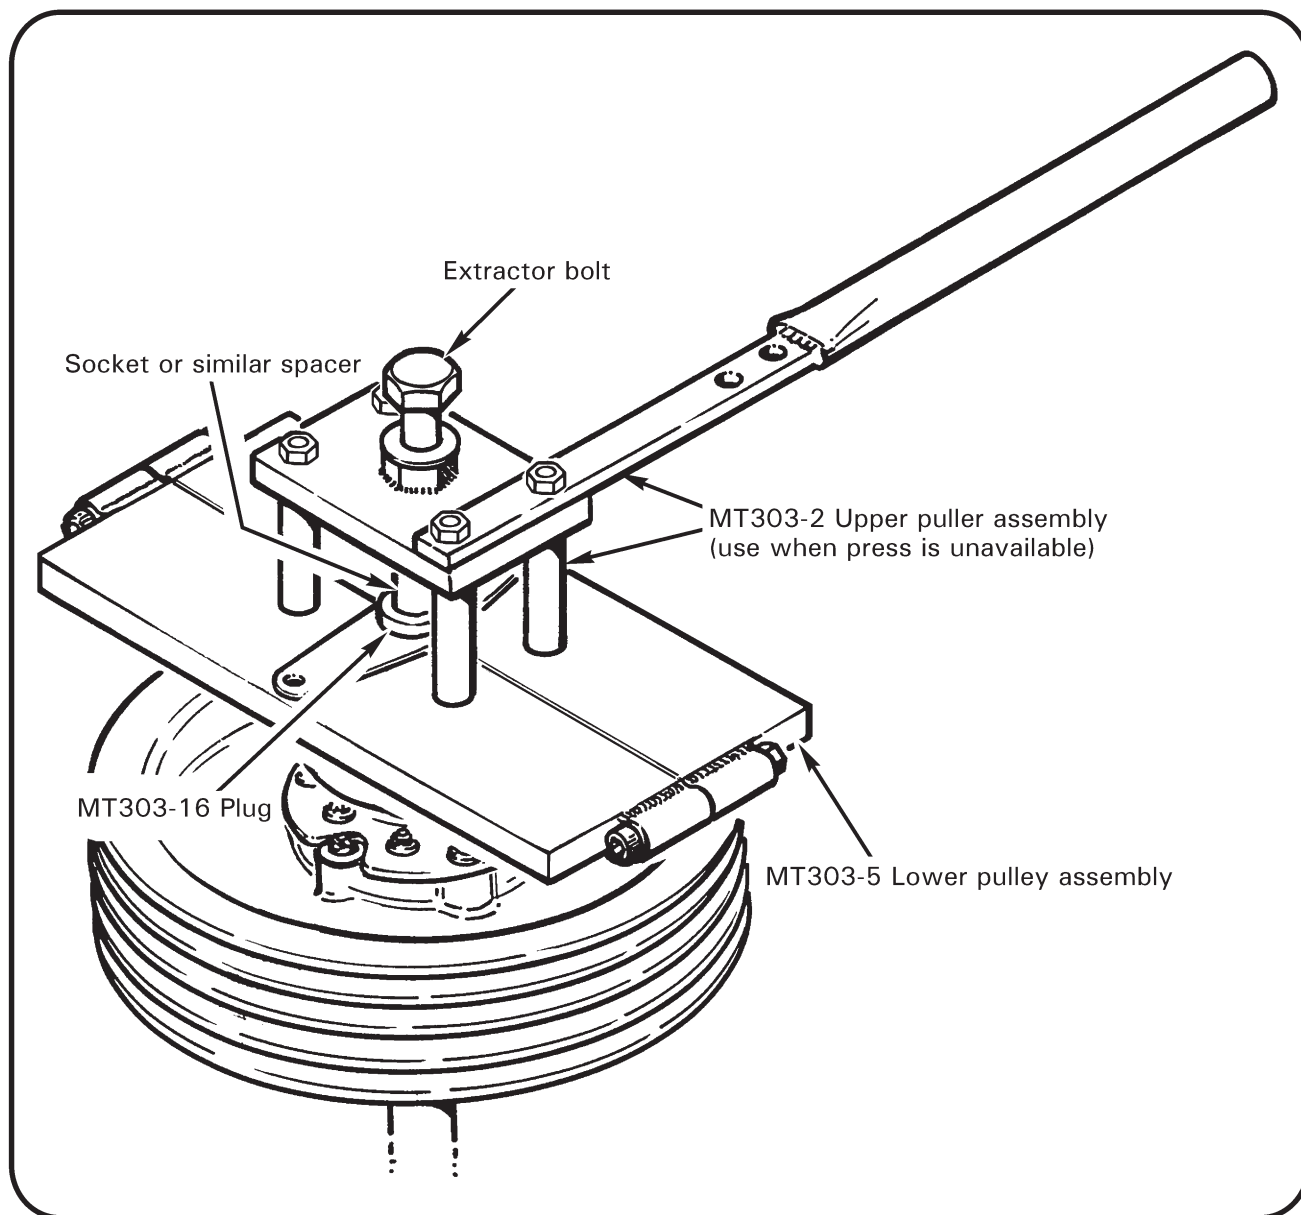

FIGURE 7-6C A195 YOKE REMOVAL
- a. If a press is available, assemble MT303-5 lower puller assembly around clutch shaft between A184 bearing and A195 yoke. Flat face of puller must be towards yoke. Refer to Figure 7-6C. Insert MT303-16 plug thru A195 yoke bore into clutch shaft and press shaft out of yoke.
- b. If a press is not available, assemble MT303-5 lower puller assembly with MT303-2 upper puller assembly per Figure 7-6C. Flat face of puller must be towards yoke. Insert MT303-16 plug thru A195 yoke bore into clutch shaft. Place a deep socket (or similar) between MT303-16 plug and extractor bolt. Tighten bolt and remove A195 yoke.